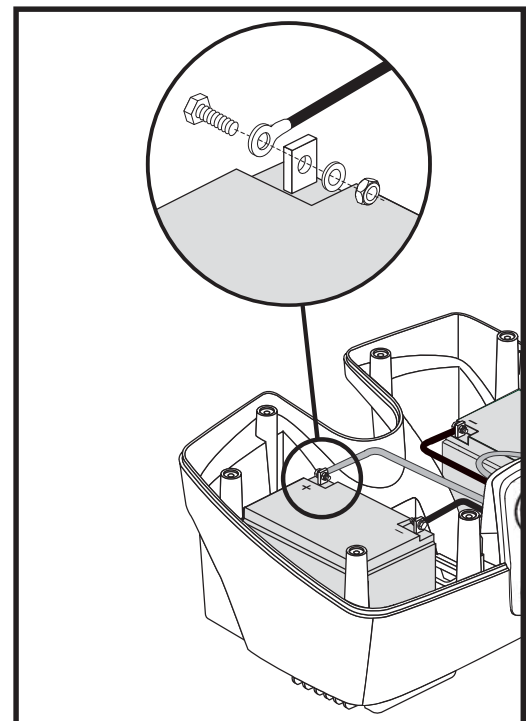

Figure 19. Disconnecting the Battery Cable on a 17-22 Ah Battery Box
**NOTE:** Some batteries require the removal of a nut and bolt when disconnecting the battery cable from the battery terminal. See figure 19.